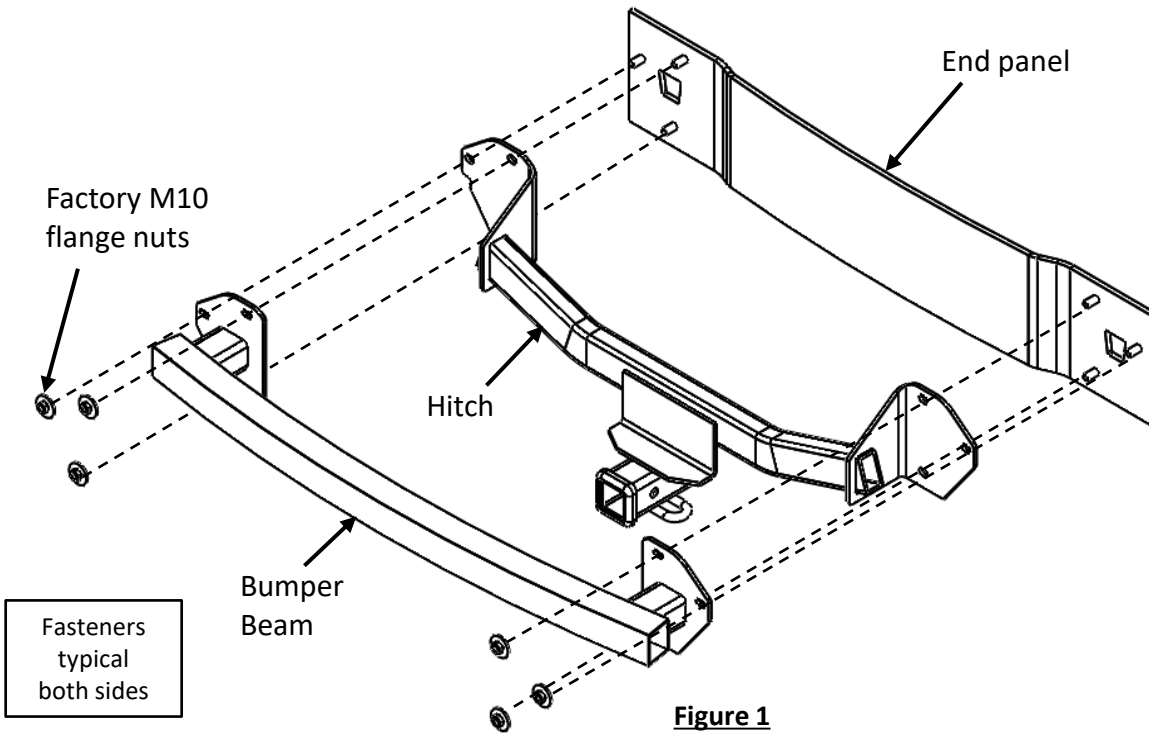

Figure 1
- 5. Install hitch** – Align bumper beam with hitch on the floor. Raise the hitch and bumper beam into position aligning holes to the studs on the end panel. Reinstall metal wiring harness bracket to the stud and loosely install (6) M10 flange nuts to the bumper beam and hitch, see Figure 1.